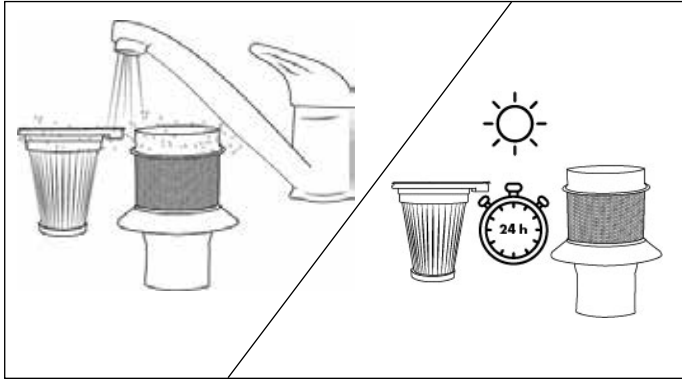

Fig. 20
- 6) Rinse the HEPA filter **6** and the stainless steel filter **11** under cold or lukewarm water. Allow the HEPA filter **6** and the stainless steel filter **11** to air dry completely before putting them back into the dust container **7** (see Fig. 20).